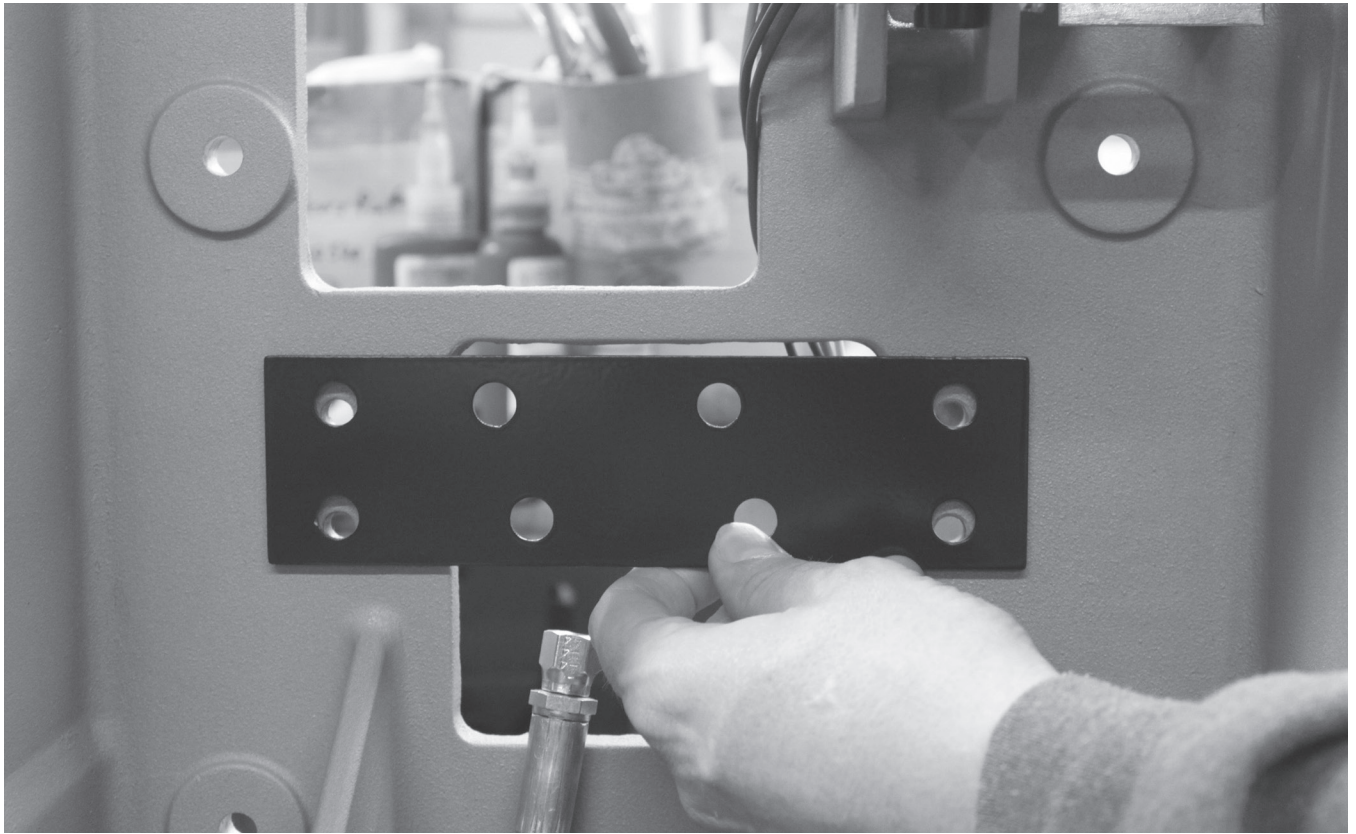
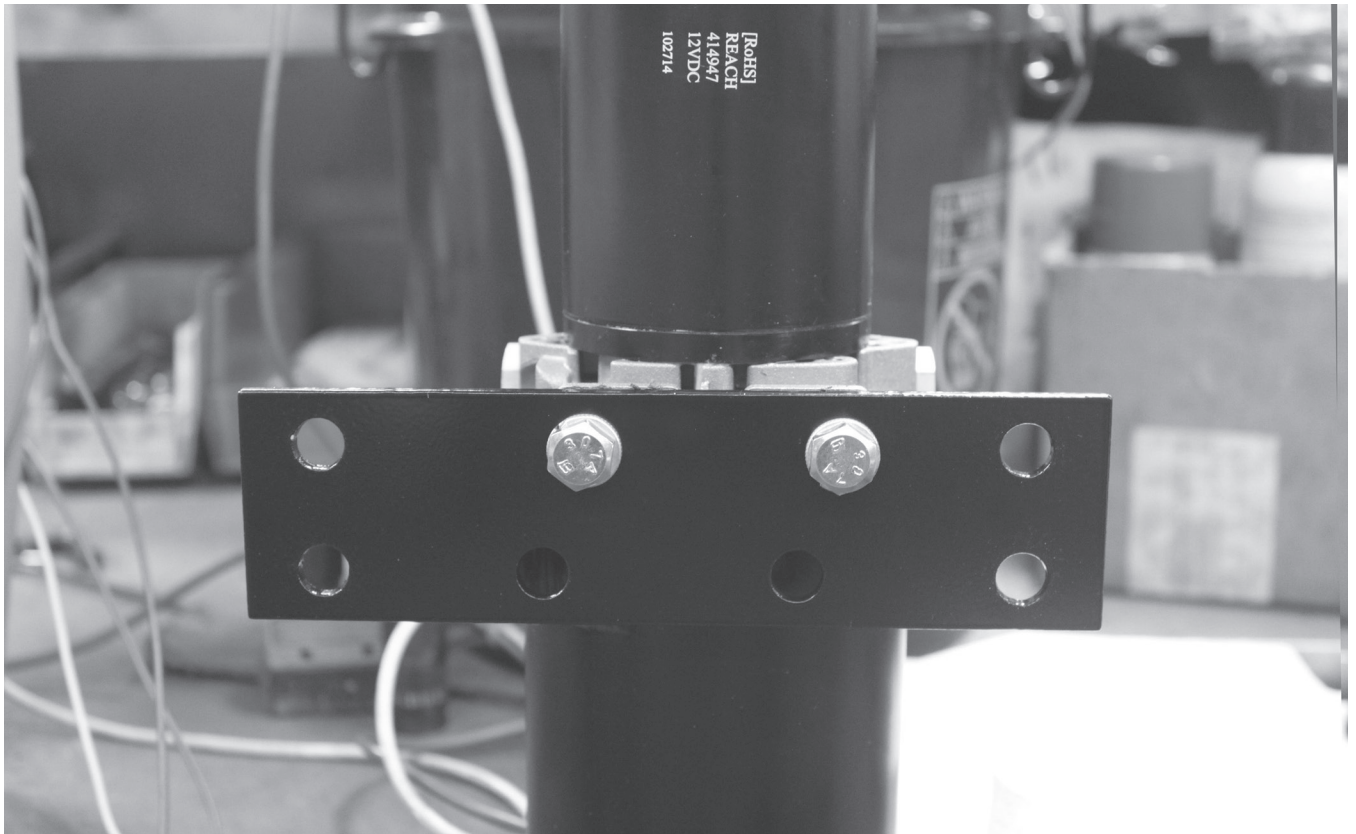

FIGURE 1A
FIGURE 1B
Note: This manual should be used alongside manual 3097PM6 (to download a copy visit ziamatic.com). For all part numbers in parenthesis, refer to Chart 1 HLAS Parts Listing on page 26 of that manual. The Figure numbers in this manual are the same as that manual with the exception of Figure 1A and 1B.
Note: Before disassembling the power unit (7) from the mounting bar (32) in the next 2 steps, see Figures 1A and 1B for specific bolt locations which are essential for proper reassembly. Figure 1A shows the plate to the base casting. Figure 1B shows the plate mounted to the power unit.
6. Remove the 4 bolts (45) and 4 lock washers (73) holding the power unit mounting bar (32) to the base casting (1).
7. Remove the hydraulic power unit (7) from the power unit mounting bar (32).
For steps 1 and 2, see Figures 1A and 1B for specific mounting holes.